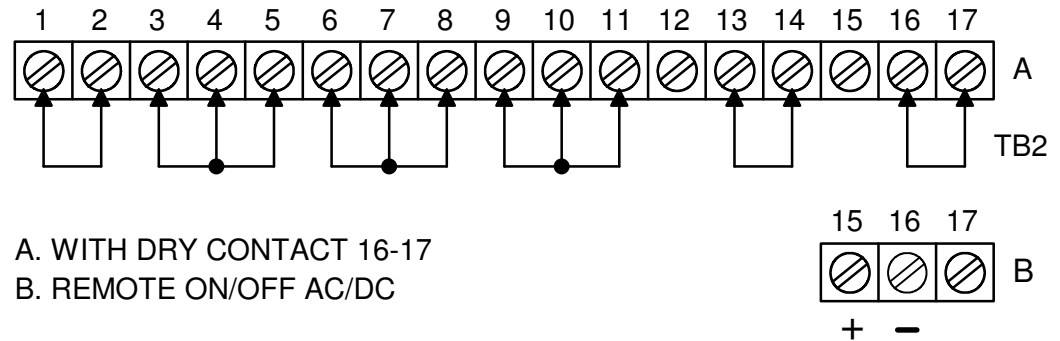

FIGURE 1: NORMAL OPERATION
- 2) Check the barrier jumper straps on the back of the unit, as shown in Figure 1, showing TB2 strip-normal operation.
- 4) Turn the CIRCUIT BREAKER (1) on/off switch to "on". The fans will start immediately but there is a 10 to 15 seconds delay before voltage or current output will occur. This is caused by the soft start circuit.
- 5) The PHASE LOSS INDICATOR (2) should be off.
- 6) Advance CURRENT CONTROL (6) one-half turn and slowly advance VOLTAGE CONTROL (3). The DC VOLTMETER (4) will deflect from zero to maximum rating of the supply as this control is advanced completely clockwise. The VOLTAGE INDICATOR (5) will be lit.
- 9) Turn the circuit breaker-on/off switch to "on". Advance the VOLTAGE CONTROL (3) one turn clockwise and slowly advance the CURRENT CONTROL (6). The DC AMMETER (7) will deflect smoothly from zero to the rated current of the supply as this control is advanced clockwise. The CURRENT INDICATOR (8) will be lit.
#### III.3.1 normal operation (Figure 1)